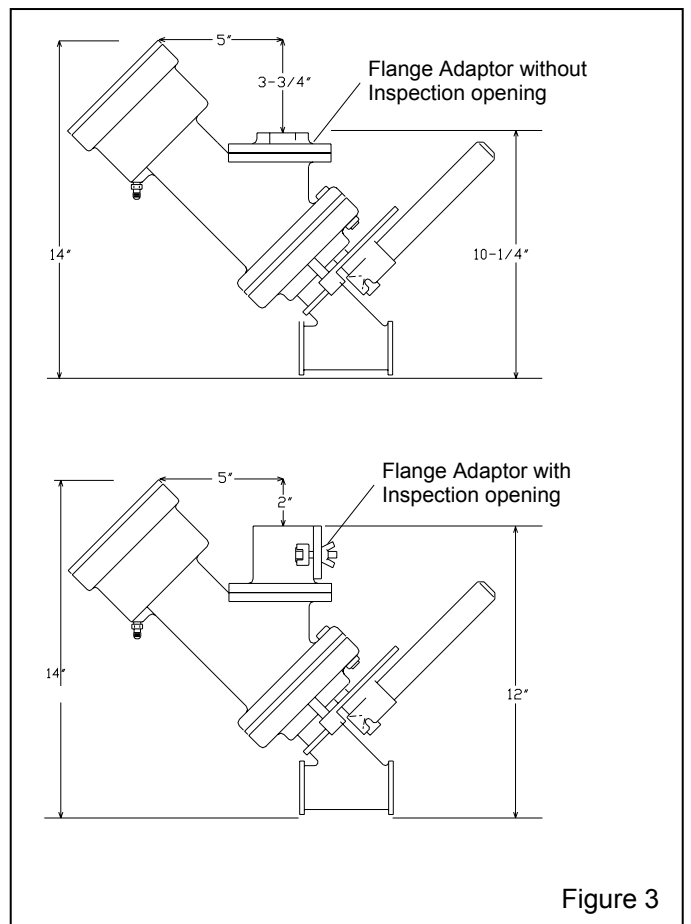

Figure 3
1.3.3 Valves are available with or without an inspection opening. Valves without inspection openings are usually used only where height clearance (distance from the bottom of the machine to the ground) is limited and requires it. See Figure 3 for nominal dimensions.